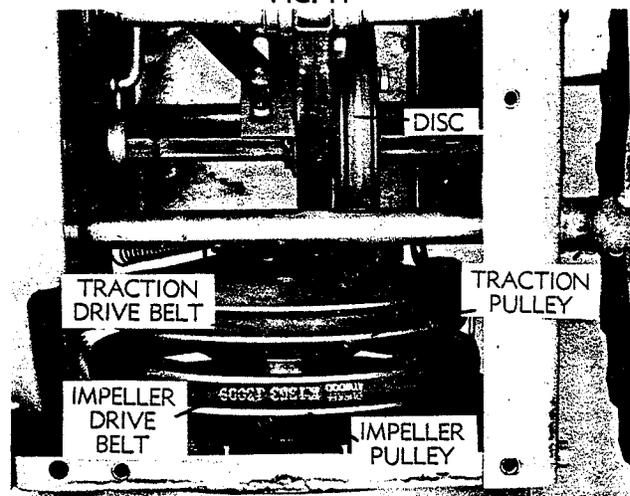

FIG. 12
- H. Remove belt from traction pulley. (Fig. 12).